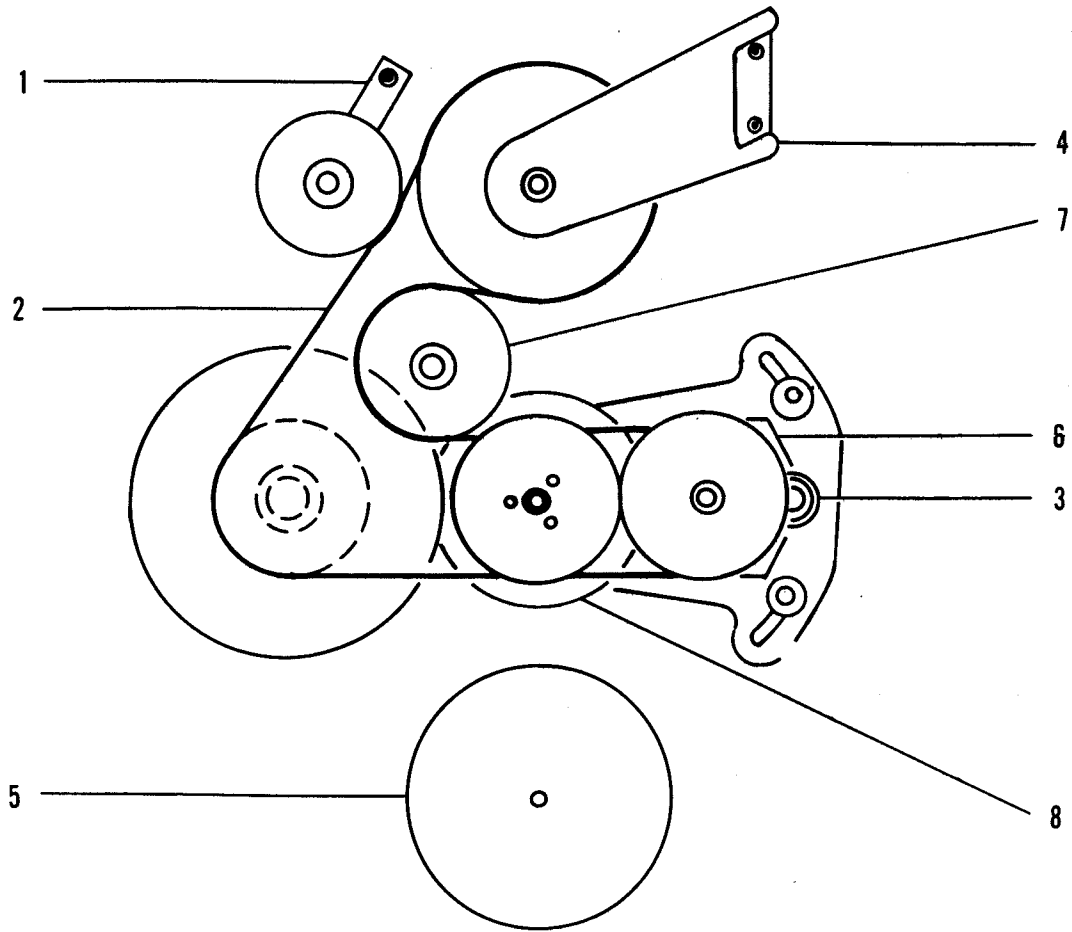

FIGURE 4-1. OUTER TIMING BELT
4-7. Outer Timing Belt. To remove the outer timing belt, refer to Figure 4-1 and proceed as follows:
2. Remove two allen screws and remove bearing and gear assembly (6, Figure 4-1).
3. Remove allen head screw that secures idler pulley (7, Figure 4-1) to main frame, then remove idler pulley.
4. Remove four allen head screws and washers securing ultramittent assembly to main frame, then remove ultramittent assembly (8, Figure 4-1).
2. Remove two allen head cap screws securing outer bearing retainer (4, Figure 4-1) to main frame.